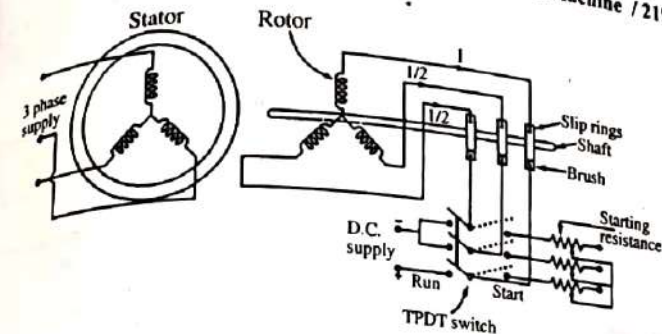

Fig. 3: Synchronous motor starting with phase wound damper winding to start the motor as induction motor.
- Fig. 3 shows the schematic diagram of phase wound damper winding for starting synchronous motor.